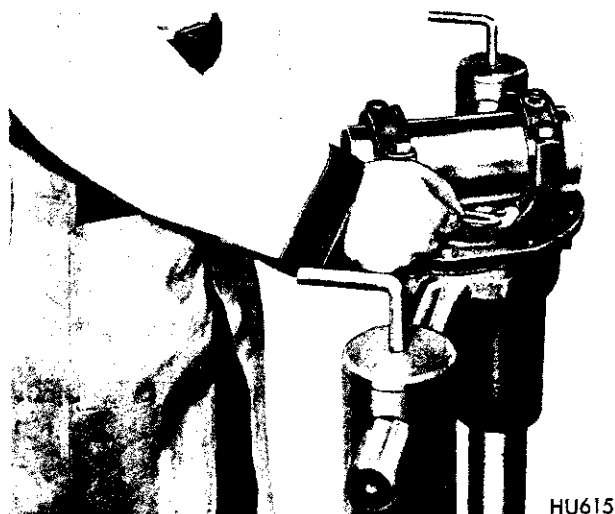

Fig. 30—Determining Spacer Thickness
(3) Select a rear pinion bearing mounting shim which will fit between cross arbor and gauge block. This fit must be snug but not too tight (similar to the pull of a feeler gauge) (Fig. 30). This shim is then used in determining the correct thickness shim for installation.
(4) To select a shim for installation, read the marking on end of pinion head (—0, —1, —2, +1, +2 etc.). When marking is —(minus), add that amount to the thickness of shim selected in step (3). When the marking is + (plus), subtract that amount. Example: With a shim .086 inch thick and a pinion marked —2, install a shim .088 inch thick. (.086 + .002 = .088). Example: With a shim .086 inch thick and a pinion marked +2, install a washer .084 inch thick, (.086 — .002 = .084) or when a shim .086 inch thick is too loose and .088 inch too tight, use .086 inch shim. Treat other pinion markings in a similar manner. Shims are available in two thousandths of an inch increments. Mounting shims differ in diameter, depending on which pinion they are used on.
(5) Remove tool arbor from carrier.
(6) Remove tool and bearings out of carrier.
(7) Remove shims, spacer, tool sleeve and rear bearing cone from tool main screw.
(8) With stem of pinion facing up, install correct shim on pinion stem. Shims are chamfered on one side and must be installed on the pinion stem with chamfered side toward pinion head.
(9) Position rear bearing cone on pinion stem (small side away from pinion head). Make certain that the contacting surfaces of correct shim, pinion head shim contact surface and rear bearing cone are perfectly clean and free of any foreign particles.
(7) Select a rear pinion bearing mounting shim which will fit between cross arbor and gauge block. This fit must be snug but not too tight (similar to the pull of a feeler gauge. (Fig. 30). This shim is then used in determining the correct thickness shim for installation.
(8) To select a shim for installation, read the marking on end of pinion head (—0, —1, —2, +1, +2, etc.). When marking is — (minus), add that amount to the thickness of shim selected in step (7). When the marking is + (plus), subtract that amount. Example: With a shim .086 inch thick and a pinion marked —2, install a shim .088 inch thick ($.086 + .002 = .088$). Example: With a shim .086 inch thick and a pinion marked +2, install a washer .084 inch thick, ($.086 - .002 = .084$) or when a shim .086 inch thick is too loose and .088 inch too thick, use .086 inch shim. Treat other pinion markings in a similar manner. Shims are available in two thousandths of an inch increments. Mounting shims differ in diameter, depending on which pinion they are used on.
(9) Remove differential bearing caps and remove tool arbor from carrier.
(10) Reverse carrier in stand so nut of tool is in upright position. Loosen compression nut, and support lower portion of tool in carrier with one hand, remove tool nut, centering washer and compression sleeve. Lower tool down and out of carrier.
(11) Remove rear pinion bearing cone from tool.
(12) Remove front pinion bearing cone from carrier housing.
(13) With stem of drive pinion facing up, add rear pinion bearing mounting shim you selected on pinion stem. **Shims are chamfered on one side and must be installed on the pinion stem with chamfered side toward pinion head.**
(14) Position rear pinion bearing cone on pinion stem (small side away from pinion head). Make certain that the contacting surfaces of correct shim, pinion head shim contact surface and rear bearing cone are perfectly clean and free of any foreign particles.
(15) Lubricate front and rear pinion bearing cones with hypoid gear lubricant. Install rear bearing cone onto pinion stem, using Tool DD-996, press bearing cone into place. An arbor press may be used in conjunction with tool.
(16) Insert pinion and bearing assembly up through carrier and install the original preload shim pack on pinion stem.
(17) Install front pinion bearing cone on pinion stem followed by drive pinion flange, bellville washer and nut. Using flange holding Tool C-3281 and torque wrench, tighten pinion nut to 240 foot-pounds. Hold the assembly in several positions to make a complete revolution while tightening.
(7) Select a rear pinion bearing mounting shim which will fit between cross arbor and gauge block. This fit must be snug but not too tight (similar to the pull of a feeler gauge. (Fig. 30). This shim is then